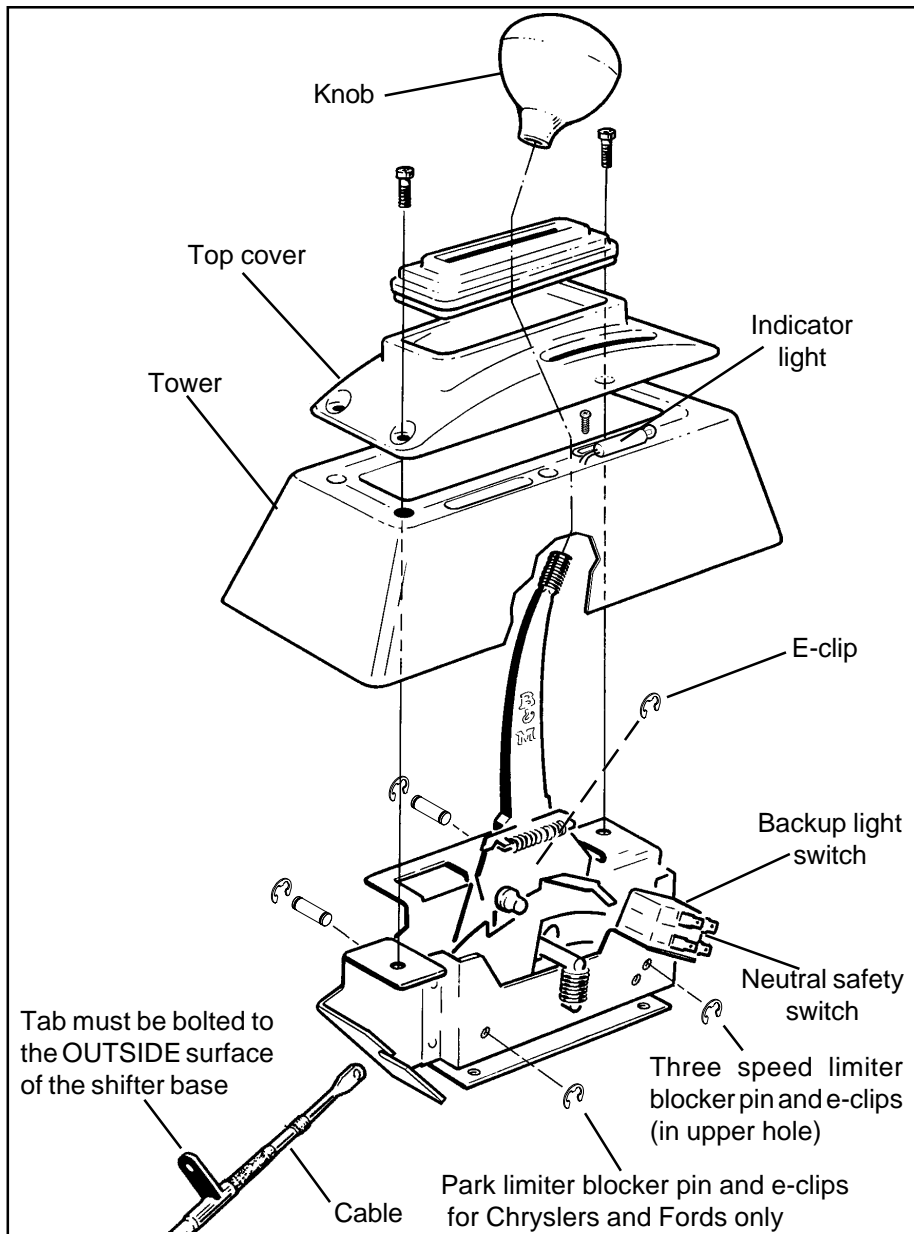

Figure 1
To use this shifter with a GM four speed automatic transmission, you will need to remove the three speed limiter blocker pin and the two e-clips (**See Figure 1**). For the Ford AOD four speed transmissions do **not** remove this blocker pin.
To use this shifter with a Ford or Chrysler automatic transmission, install the blocker pin and the two e-clips (**See Figure 1**). This limiter limits the travel of the shifter when it is shifted into Park, so that it does not stretch the cable.
NOTE: If you are installing this shifter with a GM four speed automatic transmission, you must remove the three speed limiter blocker pin and the e-clips indicated in **Figure 1**. Removing this blocker pin gives the shifter four forward positions rather than three. For Ford AOD four speed automatic transmissions and Chrysler A-500 and A-518 four speed automatic transmissions do **not** remove this blocker pin, since these transmissions have only three forward positions. Also do **not** remove the blocker pin and the e-clips for any three speed automatic transmissions. (The three speed limiter blocker pin goes in the upper of the two holes at the rear of the shifter).
If you are installing this shifter with a Ford or Chrysler three or four speed automatic transmission you must install the Park limiter blocker pin and the e-clips as also indicated in **Figure 1**. This limiter limits the shifter travel into the Park posi-
a drill bit to make holes in the carpet. **STEP 5.** Install the cable on the shifter as shown in **Figure 1**. The cable attachment tab must be bolted to the outside surface of the shifter base using the supplied ¼" X ½" hex bolt, lock washer and nut. Put the end of the indicator link on the cable pin outside of the shifter cable. Install the e-clip to secure the cable. **STEP 6.** Install the backup light switch and the neutral safety switch in place on the shifter mechanism. Install them using the two supplied #4-40 screws, nuts and lock washers, as shown in **Figure 1**. If necessary, bend the fingers slightly so that they engage the slots. **Beware**, overtightening the switch attachment screws will crack the switch housings. Adjust the switches so that the neutral safety switch (the lower switch) operates in Neutral and Park only
STEP 11. If you have a four speed automatic transmission, be sure that you have removed the three speed limiter blocker pin shown in **Figure 1**. If you have a three speed automatic transmission, the three speed limiter blocker pin and e-clips should be installed. The Park limiter blocker pin and e-clips should not be installed for any GM transmission.
QuickSilver Shifter. Strip $\frac{1}{4}$ " of insulation off the wires and install the slip-on terminals supplied in the kit. Crimp the terminals onto the wires using a crimping tool or pliers. Connect the neutral safety wires to the **LOWER** switch and the backup light wires to the **UPPER** switch (**See Figure 1**). Tape the terminal connections and all other connections to prevent shorts.
STEP 17. Be sure that the Park limiter blocker pin and the three speed limiter blocker pin are both installed as shown in Figure 1. The Park limiter will prevent the shifter from additional travel beyond the Ford Park position. (GM transmissions have greater travel between Neutral and Park than Ford transmissions do). The three speed limiter blocker pin is required because all Ford three and four speed automatic transmissions have only three forward gear positions, even the four speed AOD.
beginning to wire the neutral safety and reverse light switches. Reroute the wires to the **B&M QuickSilver Shifter**. Strip $\frac{1}{4}$ " of insulation off the wires and install the supplied slip-on terminals. Crimp the terminals onto the wires using a crimping tool or pliers. Connect the neutral safety wires to the **LOWER** switch and the reverse light wires to the **UPPER** switch (See Figure 1). Tape the terminal connections to prevent shorts. Reconnect the battery ground cable, disconnect the coil wire and set the parking brake. Check the switch operation by attempting to start the motor in each shifter position. **The starter must crank only when the shifter is in the Park or Neutral position.** Check the backup light operation when the shifter is shifted to the Reverse position. Adjust the switches if required. Reconnect the coil wire. Go to **Step 25**.
STEP 22. Be sure that the Park limiter blocker pin and the three speed limiter blocker pin are both installed as shown in Figure 1. The Park limiter will prevent the shifter from additional travel beyond the Chrysler Park position. (GM transmissions have greater travel between Neutral and Park than Chrysler transmissions do). The three speed limiter blocker pin is required because all Chrysler three and four speed automatic transmission have only three forward gear positions, even the four speed A500 and A518.
'66-'68: The neutral safety switch will continue to function normally. It will not be necessary to hook up the neutral safety switch wires on the shifter. Disconnect the battery ground cable before wiring the backup light switch. Locate the original backup light switch on the steering column or the console shifter. Run these wires to the **UPPER** switch on the **B&M QuickSilver Shifter** (See Figure 1). Reconnect the ground wire and check the light for proper operation. Adjust the switches on the shifter if required.
STEP 27. Mount the indicator light on the tower (See Figure 1). The light socket can mount on the top or the bottom of the tower depending on the brightness desired. Mount the socket so the bulb is to rear of the tower and secure it using one 10-24 self-tapping screw. Do not overtighten as you may strip out the hole in the tower. Place the tower into position on the shifter. Connect one wire from the light socket to a good chassis ground. A shifter mounting bolt should be satisfactory. Run a length of wire from the vehicles instrument panel light circuit to the other wire from the light socket. Secure and tape all wires. Indicator light will work with the